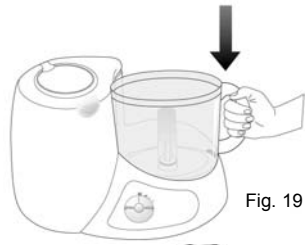

Fig. 19
- Place the food processor bowl onto the processor body. (Fig. 19)